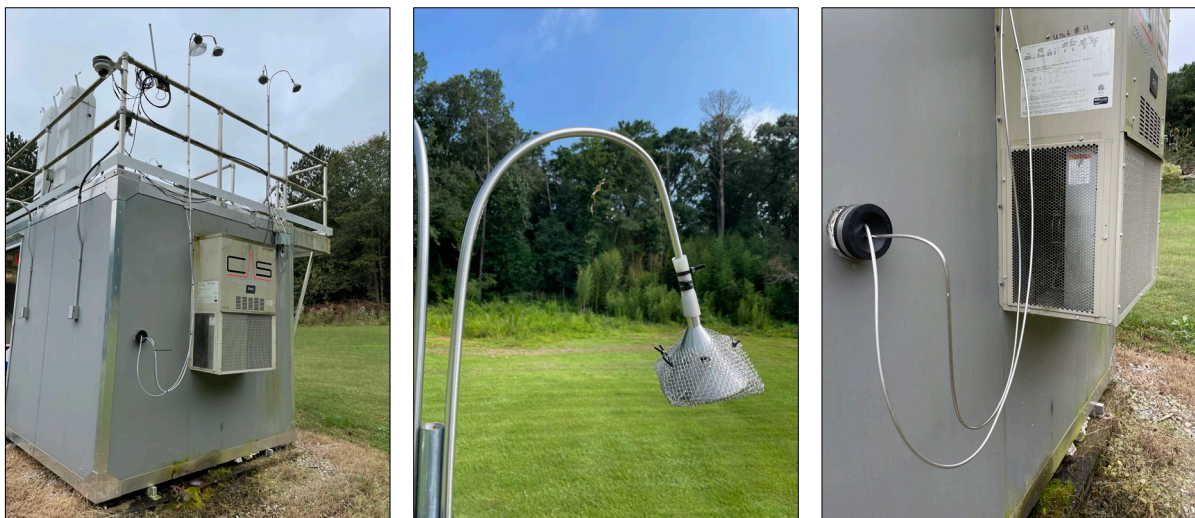

Figure 36: (L) Sampling Shelter (M) Inlet with Inverted Funnel (R) Bulkhead Passthrough
Figure 36 shows a typical sampling shelter setup.
1. An inverted inlet line, typically 3/8", set away from any emissions sources, and far enough off the ground to avoid flooding, as shown in Figure 36 (middle image).